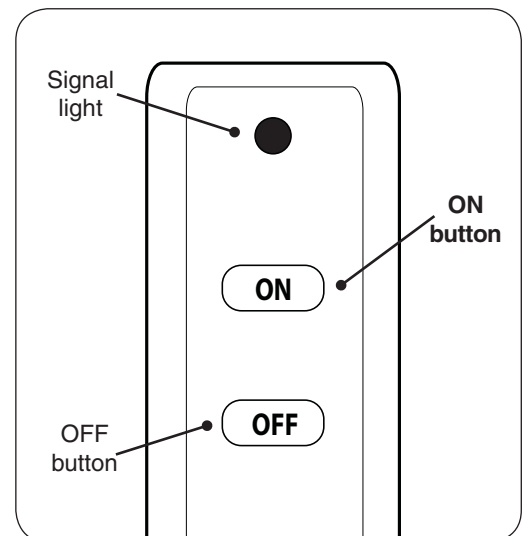

Fig. 27-2 Remote transmitter detail
2. Locate the remote transmitter and press the **ON** button (see Fig. 27-2). The ignition sequence will begin.